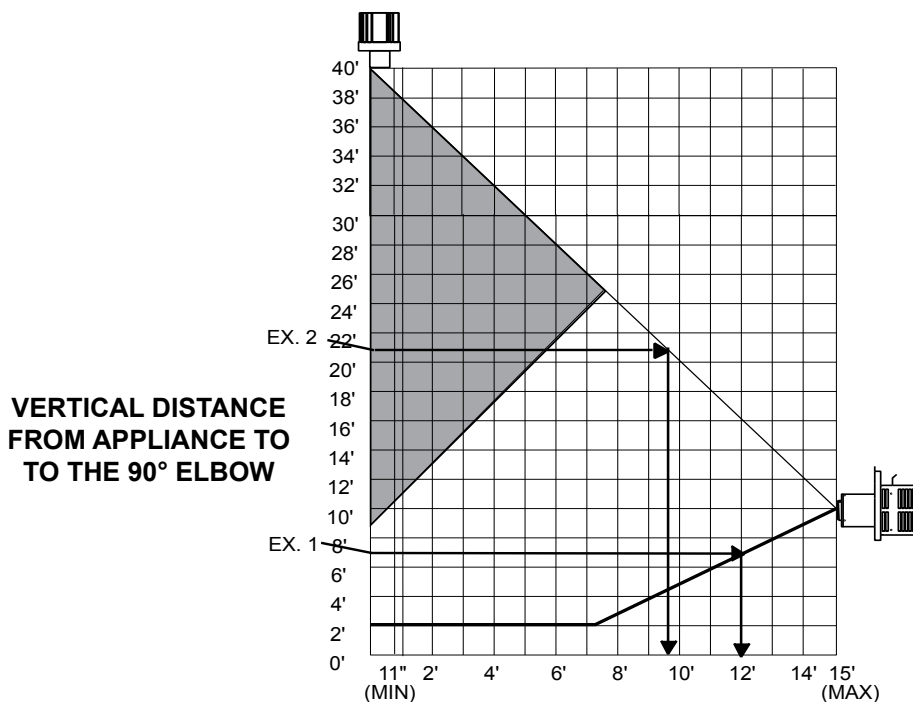
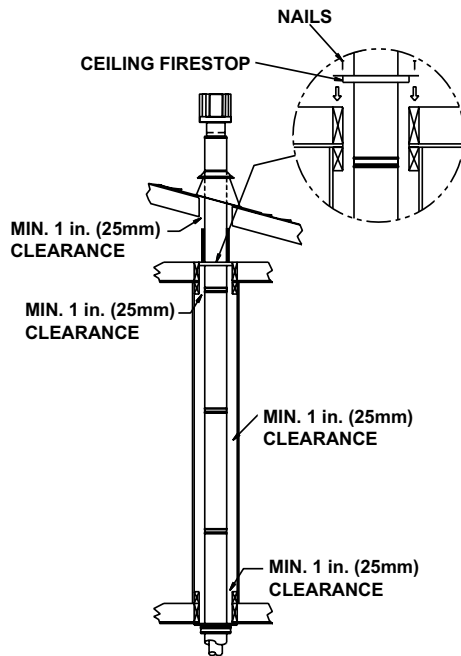

Figure 5.2
Figure 5.16
Check the installation instructions for required 1 in. (25mm) clearances (air space) to combustibles when passing through ceilings, walls, roofs, enclosures, attic rafters, or other nearby combustible surfaces. See page 17, **Figure 5.16**. Check the instructions below for maximum vertical rise of the venting system, and any maximum horizontal offset limitations. All offsets must fall within the set parameters of the vent graph (**Figure 5.2**) located on page 11.
**Note:** For multi-story vertical installations, a ceiling firestop is required at the second floor, and any subsequent floors (**Figure 5.16**). The opening should be framed to 10 in. x 10 in. (254mm x 254mm) inside dimensions, in the same manner as shown in **Figure 5.13**, on page 16.